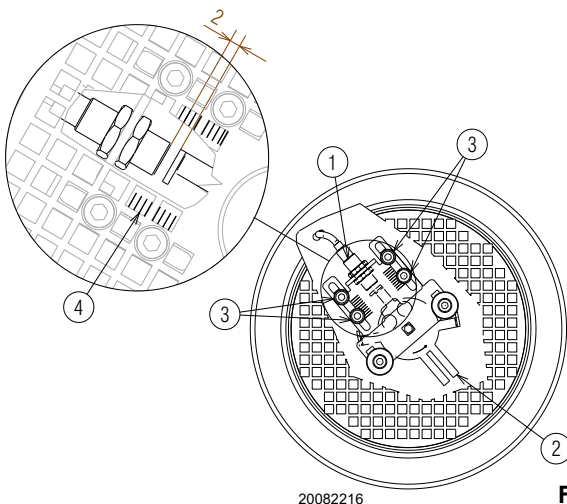

Fig. 41
- loosen the screws 3)(Fig. 41) rest the sensor on the disc extension 2);
Key (Fig. 41)